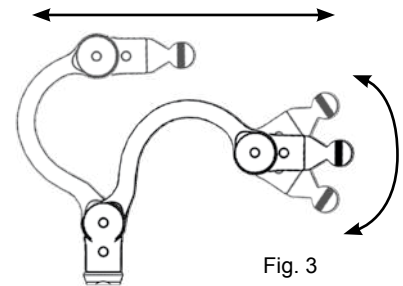
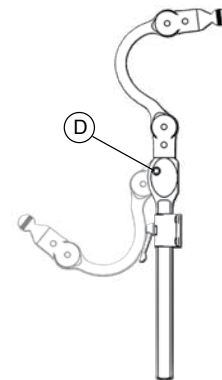

Fig. 3
Fig. 4
3. To flip the headrest back push button (Fig. 4, D) and swing unit back.
2. Horizontal / Angle – Loosen pivot bolts (Fig. 1, A) for depth (Fig.4) and angle (Fig.3) adjustments. It is not necessary to fully tighten all screws until final position is achieved.